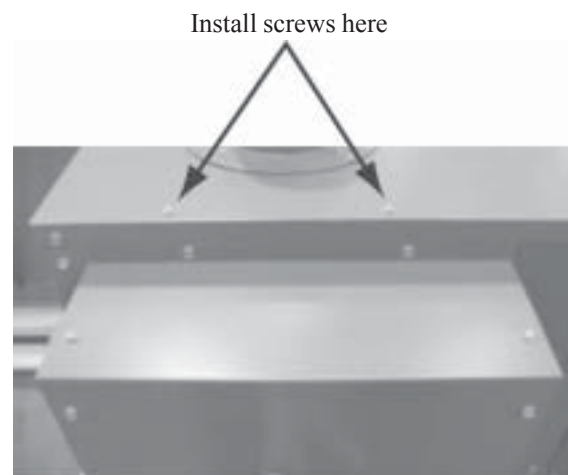

Fig. 4
15. Install two screws in the holes behind cover plate. See **Fig. 4**.